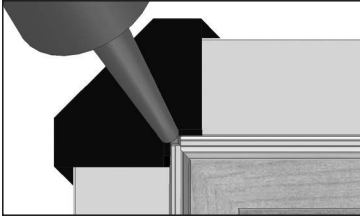

FIG. 11b
- b. Apply small amount of silicone on the interior side of the small void in the corner of the frame and pad. (Fig. 11b)